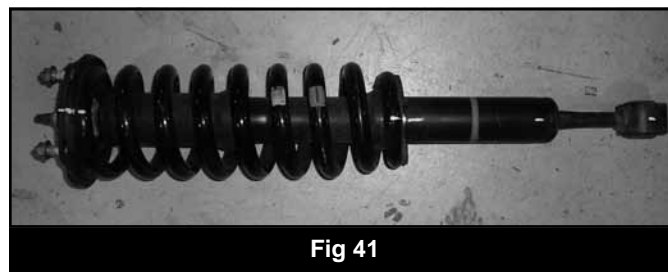

Fig 41
54. Locate the factory strut assemblies that were removed earlier. Place indexing marks on the strut body, lower coil seat and upper strut mount for reference when the strut is reassembled (Fig 41).